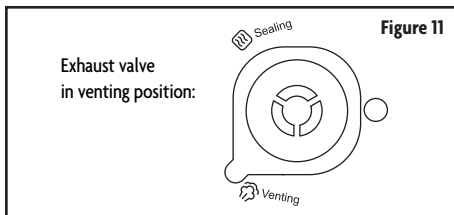

Figure 11
6. For presets requiring a lid, position the exhaust valve in the correct position. When the silver float valve is up, there is pressure inside the cooker. When it is down, there is no pressure inside the cooker. The exhaust valve can be in two positions. The “Sealing” position maintains airtight cooking conditions and is used for most presets. The “Venting” position allows steam to be constantly released. This position can also be used for a quick release to allow the pressure to escape immediately, which can be helpful once cooking is complete so you don’t have to wait for the pressure to release. See below for information on the exhaust valve position. (Refer to Figure 11 and 12.)